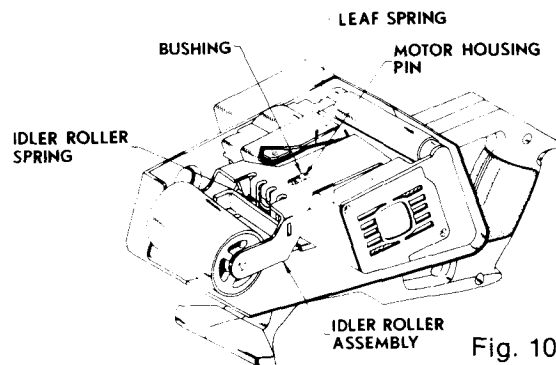

Fig. 10
5. Reassemble tool. NOTE: THE LEAF SPRING, BUSHING, IDLER ROLLER ASSEMBLY, AND IDLER ROLLER SPRING MUST BE POSITIONED AS SHOWN IN FIGURE 10. Also, make sure slot in idler roller assembly is engaged with motor housing pin and bushing.